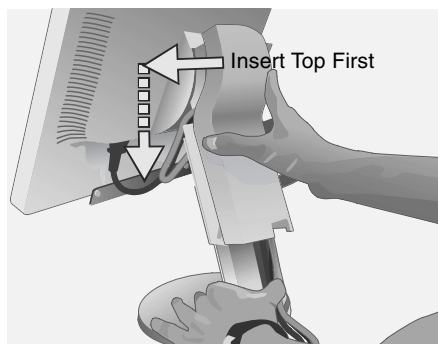
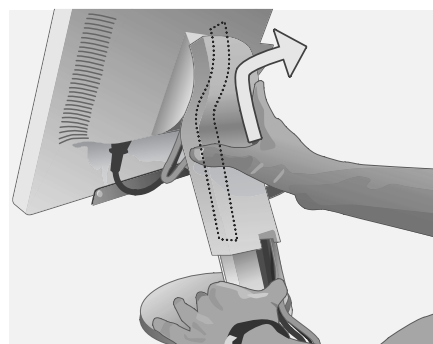

Figure D.1
Figure D.2
9. Hold the all cables firmly and place the cable cover onto the stand (**Figure D.1**). To remove the cable cover, lift the cover off as shown in **Figure D.2**.